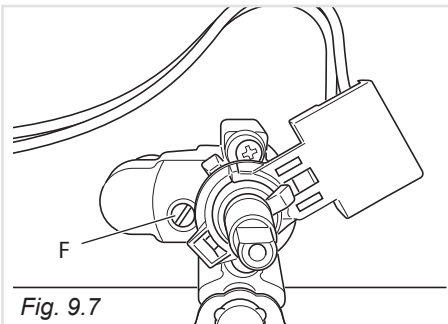

Fig. 9.7
- With a thin screwdriver turn the screw "F" until adjustment is correct (fig. 9.7).